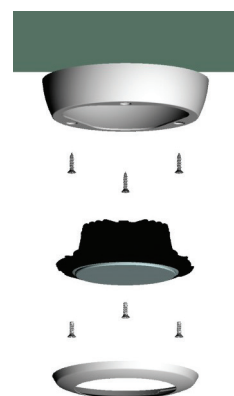

Figure 6
1. Position mounting base in desired location and secure using (3) #4 flat head screws.
3. Once all electrical connections are made, place the led subassembly housing into the base, line up the holes and secure with (3) machine screws which are included. (See Figure 6)